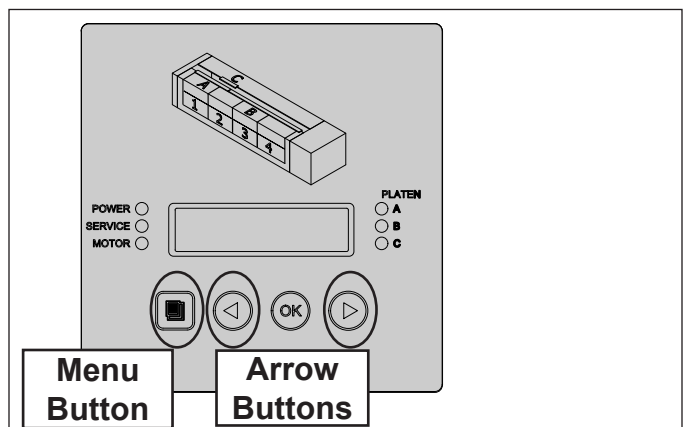

Figure 4. HEBT-5V Control Panel
- a. Press and hold the **MENU** button for five seconds (Figure 4). The control panel displays “A Platen.”
1. Set the unit to display temperatures in degrees Fahrenheit (steps 1a and 1b). Press and hold the **MENU** button for five seconds (Figure 4). The control panel displays “A Platen.”
1. When the unit is plugged in, press and hold the **MENU** button (Figure 4) for five seconds. The control panel displays "A Platen." The display scrolls to show the actual temperature, SSR Duty cycle, and the setpoint. Example: **A Platen: 271°C 35% 271°C**
2. Use the **LEFT** and **RIGHT** arrow buttons (Figure 4) to scroll through the settings, which appear in the following order:
3. To change a setting, press the OK button and then use the **LEFT** and **RIGHT** arrow buttons to adjust as needed. Press the OK button again to save the changes. See Figure 4.